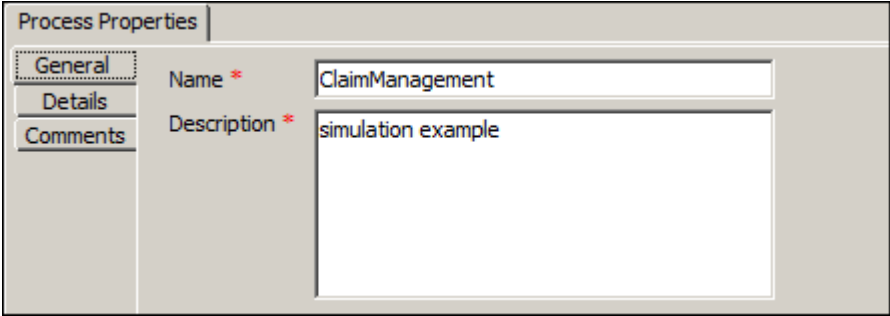

Figure 4: Viewing Properties of Entire Process Model
1. Click the **Process Properties** tab in the Bottom Pane. It displays the properties for the entire process model in the *Process Properties Panel* in the Bottom Pane (see Figure 4).